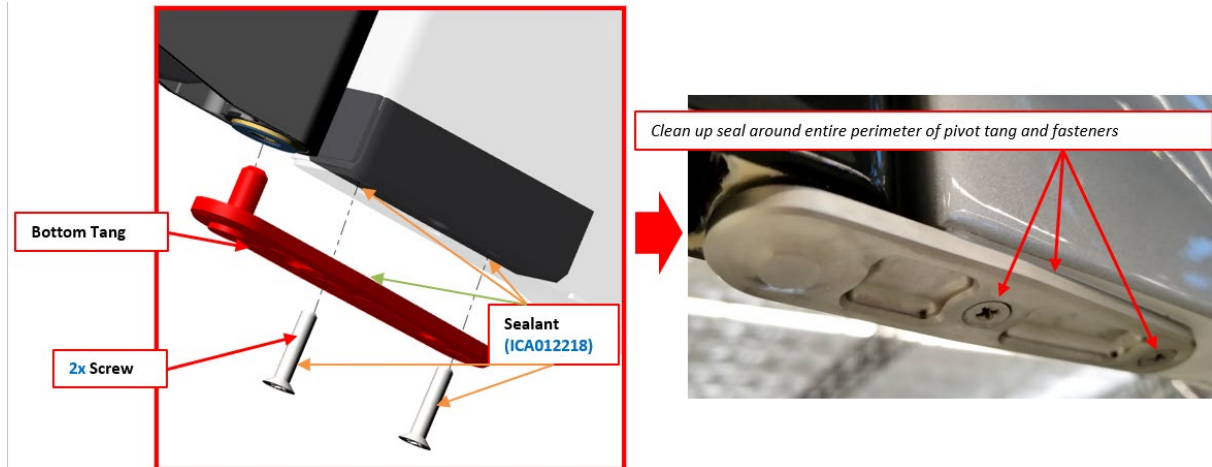

Figure 13. Pivot Tang Installation
- q. Using ICA012218 (Sikaflex) sealant, apply a thin void-free layer to the mating surfaces of the pivot tang, the fuselage, and both screws. (**Figure 13**)